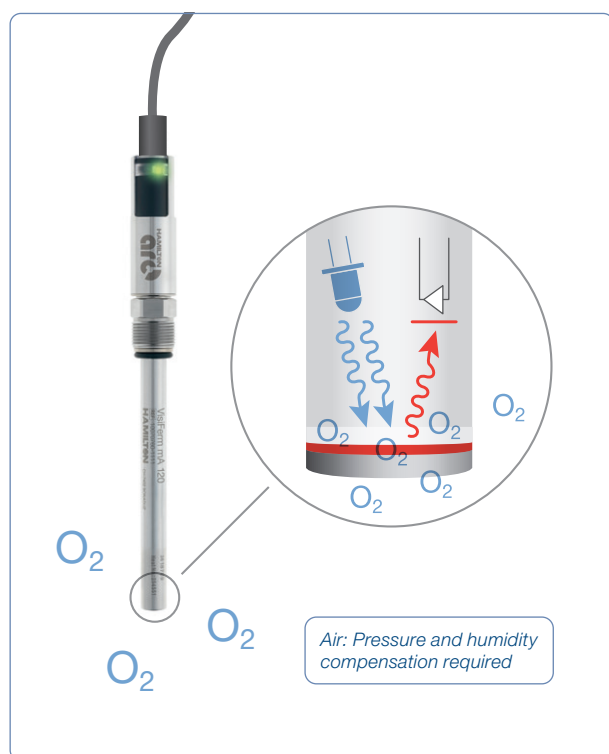

Figure 13: Calibration setup in air
- 1) Make sure temperature, humidity and pressure values are constant (Figure 13)
- 6) Immerse the sensor into an oxygen-free environment (Figure 13) for e.g. nitrogen. Verify that the flow rate does not exceed 0.5 L/min and avoid overpressure